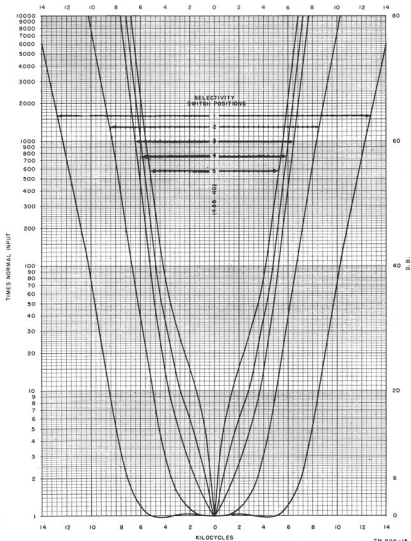

Figure 18. Selectivity curves for Radio Receiver R-320/FRC.
43. Selectivity Switching System (fig. 18)
b. With the SELECTIVITY switch in position 1, the i-f bandwidth obtained (outermost curve in fig. 18) is sufficiently broad for high fidelity reception. In this position, the two interstage coupling systems between the first and second i-f stages and between the second and third i-f stages are adjusted for broad bandwidth. This is done by connecting the E points of networks Z-103, Z-104, Z-105, and Z-106 to ground. Thus coils L-115, L-116, L-117, and L-118 are placed in the tuned circuits. This added inductance in 4 of the 12 tuned i-f circuits overcouple the circuits, thereby adjusting the i-f channel for a broad bandpass.